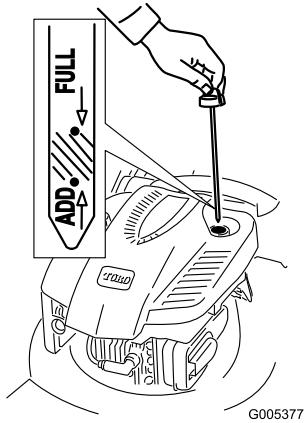

Figure 8
1. Remove the dipstick (Figure 8).
2. Slowly pour oil into the oil fill tube until the oil level reaches the **Full** mark on the dipstick (Figure 8).